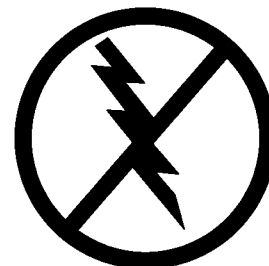

Fig. 6 ELECTROSTATIC DISCHARGE SYMBOL
- (1) Disconnect the negative battery cable.
- (2) Remove the electrical connector from the ignition coil (Fig. 6).
- (3) Prior to removing the ignition coils, spray compressed air around the coil area and spark plug. On 3.5L engines, it is necessary to loosen the screws by alternating back and forth. Do not lose the spacers under the coil when loosening the screws.
All ESD sensitive components are solid state and a symbol (Fig. 6) is used to indicate this. When handling any component with this symbol, comply with the following procedures to reduce the possibility of electrostatic charge build up on the body and inadvertent discharge into the component. If it is not known whether the part is ESD sensitive, assume that it is.